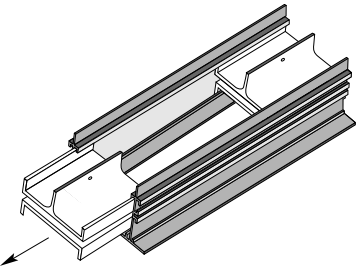

Figure 19. Diffuser Spacer Removal
- B. Slide the top spacer sufficiently to allow for removal of the pattern controllers or completely remove top and bottom spacer as shown in Figure 19.